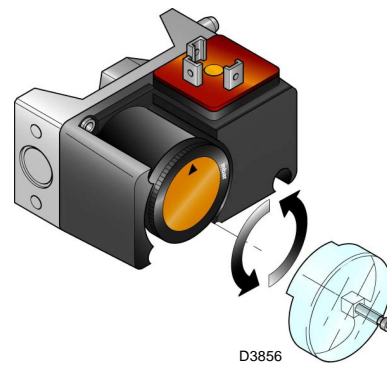

Fig. 34
- Adjust the maximum gas pressure switch (Fig. 34) to the end of the scale.
Adjust the maximum gas pressure switch after having performed all the other burner adjustments with the maximum gas pressure switch set at the end of the scale (Fig. 34).